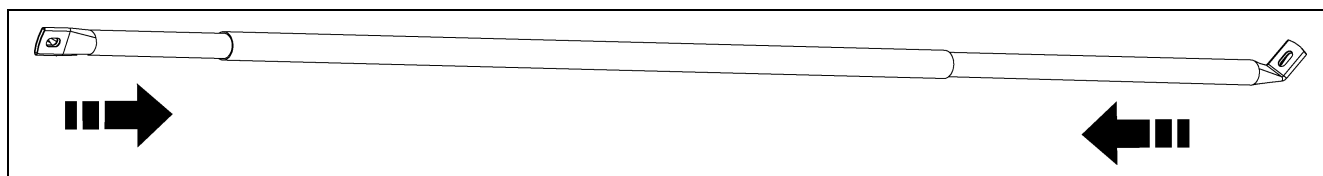

Figure 10C
The adjustable braces must be attached at this time. An eave adjustable brace is comprised of one large diameter tube and two (2) smaller diameter tubes. (See Figure 10C.) Slide the smaller tubes inside the larger tubes and attach one smaller tube to the top of the ladder extension rail. Adjust the other smaller tube so the bottom of the flattened tube reaches the roof panel. Field drill four (4) 5/16" holes through both large and small tubes and bolt together using 1/4" x 1-1/2" bolts and nuts. This will keep the adjustable braces from slipping.